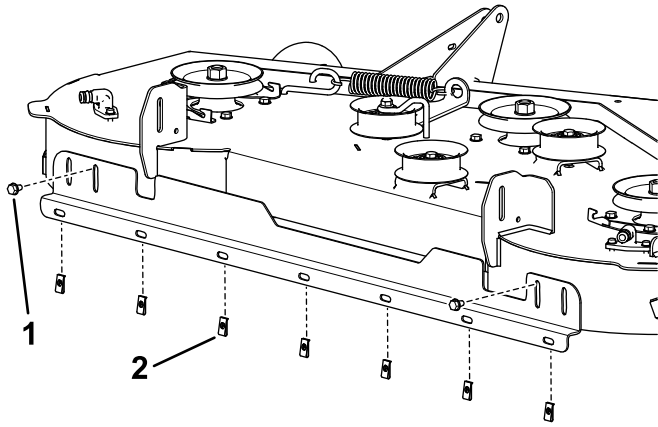

**Figure 4**
- For 60-inch models, use the outer slots in the bracket as reference points when drilling the hole (Figure 4).